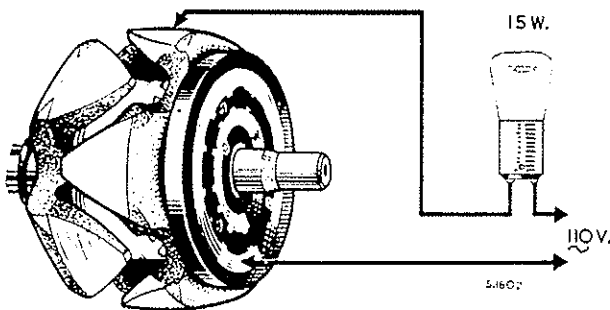

Fig. N.11. Insulation test of rotor winding
2. Test for defective insulation between one of the slip-rings and one of the rotor poles using a 110 volt A.C. mains supply and a 15 watt test lamp (see Fig. N.11). If the lamp lights, the coil is earthing and a replacement rotor/slip-ring assembly must be fitted.